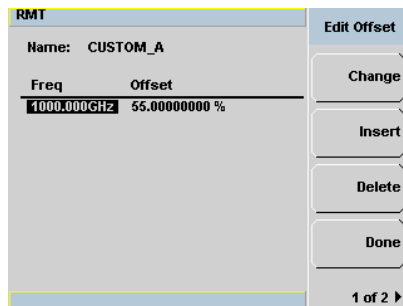

Figure 3-10 “Edit Offset” display with data added
- 2 Choose the table you want to edit using the  and  keys. Press **Edit Table** to display the **Edit Offset** screen as shown in Figure 3-10.